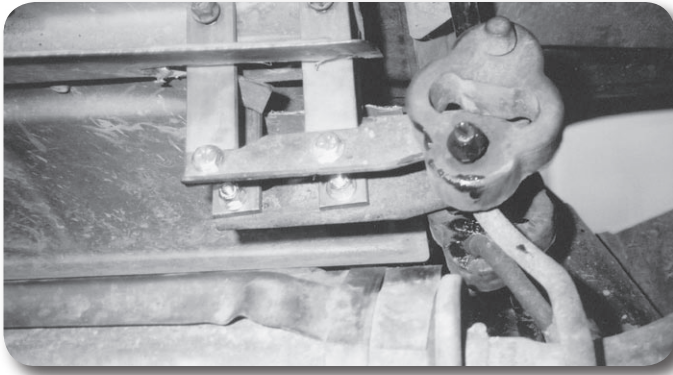

Figure 10
44. Install modified hanger on vehicle through access slot cut in heat shield. Using two 1/4"-20 x 2-3/4" bolts, two 1/4" lock nuts, and four 1/4" SAE washers, attach the exhaust hanger through the relocating bracket, through the original mounting hole, and through the opposite bracket (Fig. 10).